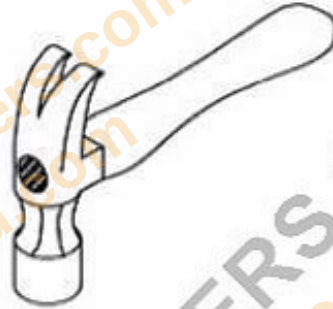

Figure 1
- 1 (a) Figure 1 shows one of the driving tools used in the Design and Technology workshop.
- (i) Give the name of the tool in figure 1.
- (ii) State **two** safety rules to be observed when using the tool in figure 1.
- (iii) Give **two** uses of the tool in figure 1 above.